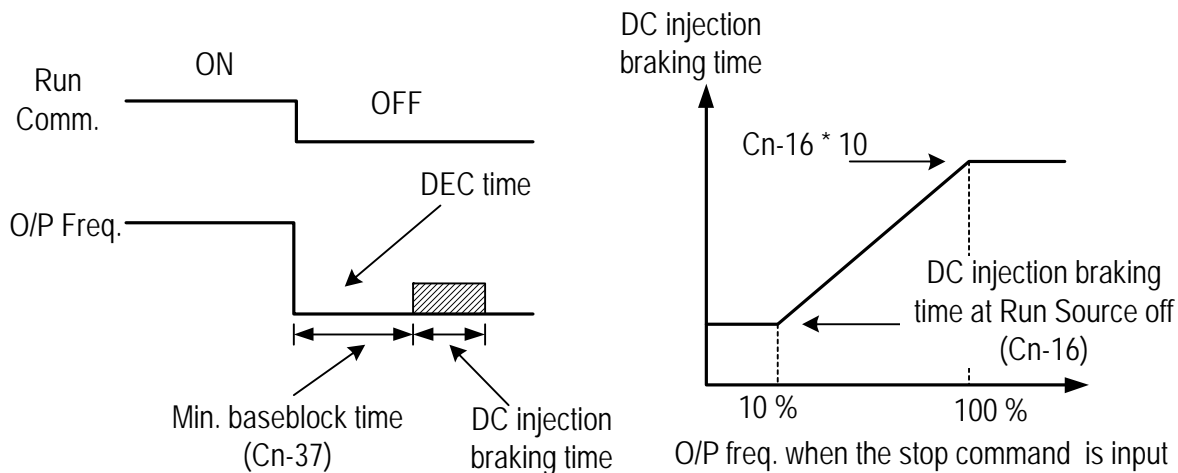

Fig. 30 Whole range DC Injecting Braking Stop
- The DC injection braking time depends upon the output frequency when the stop command is input and the “DC injection time at stop” setting (Cn-16) as shown in Fig. 30.
- Lengthen the minimum baseblock time (Cn-37) when an overcurrent (OC) occurs during stopping. When the power to an induction motor is turned OFF, the counter-electromotive force generated by the residual magnetic field in the motor can cause an overcurrent to be detected when DC injection braking stop is applied.